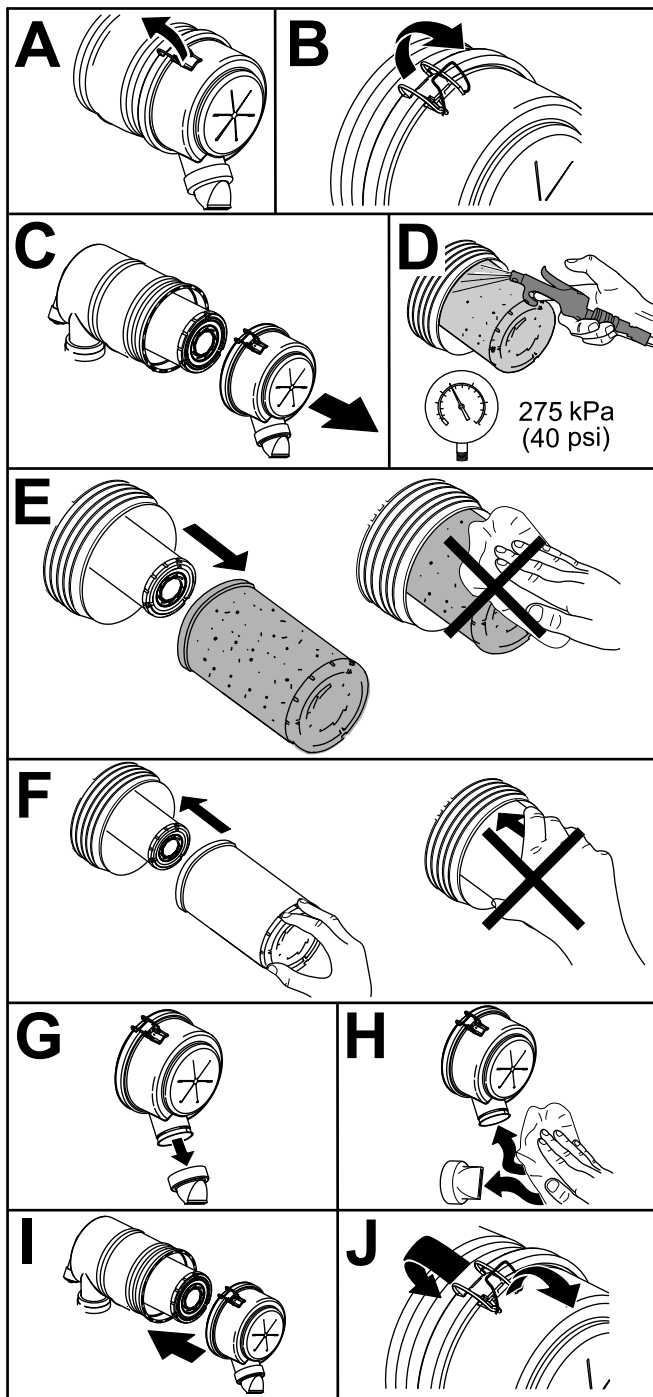

Figure 83
1. Replace the air cleaner (Figure 83).